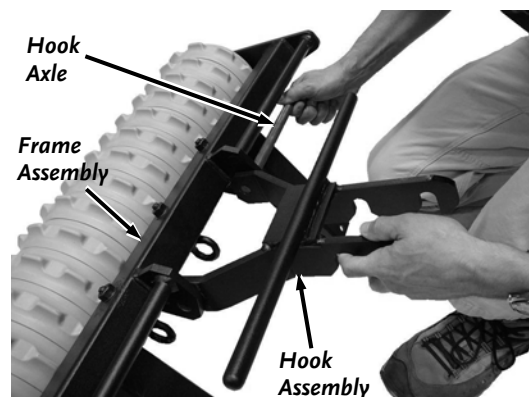

Figure 18
1. Position the Hook Assembly and line up the holes with the Frame Assembly (**Figure 18**).